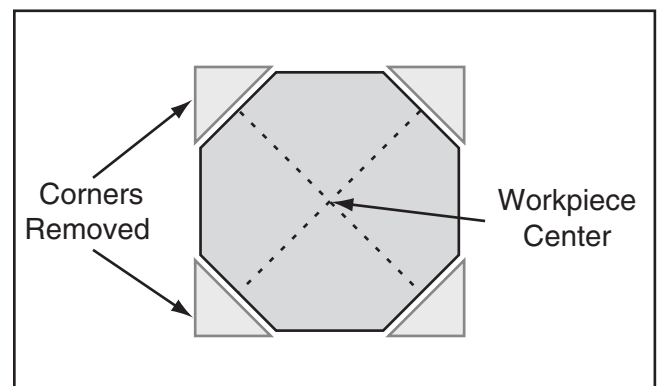

Figure 28. Corners of workpiece removed.
5. If your workpiece is over 2" x 2", cut corners off workpiece lengthwise to make turning safer and easier (see **Figure 28**).